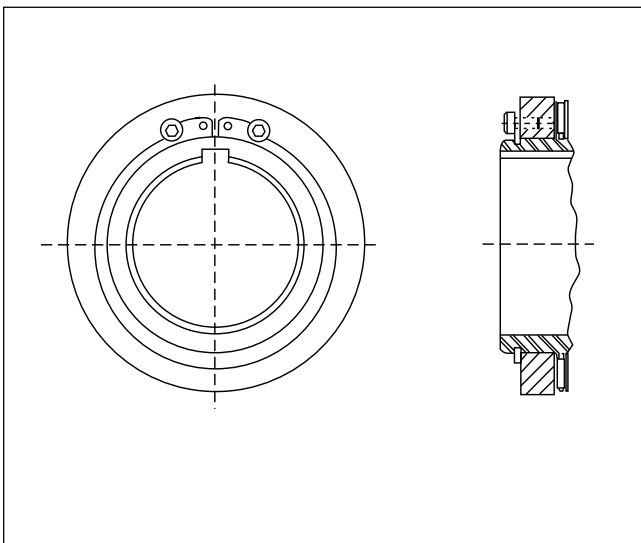

Figure 19
6. On clutch sizes 09 and 11, the tabs of the snap ring must be oriented between the two tapped holes in rear spacer. Install spacer as shown in Figure 19.